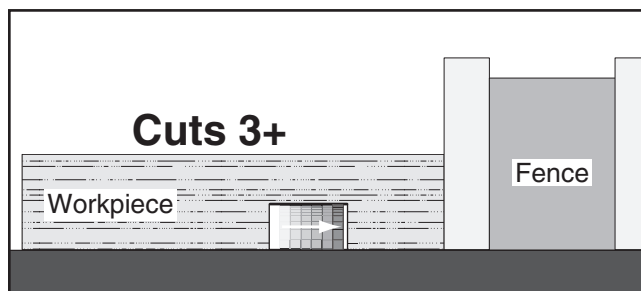

Figure 58. Additional single blade dado cuts.
9. Make additional cuts (see **Figure 58**) in the center of the dado to clear out the necessary material. The dado is complete when the channel is completely cleared out.